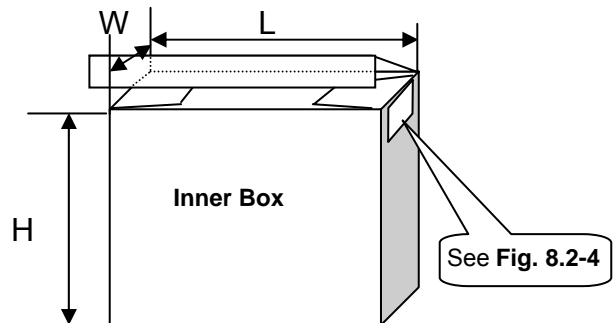

Fig. 8.2-3
2. Marking label on inner box (see **Fig.8.2-3~4**):